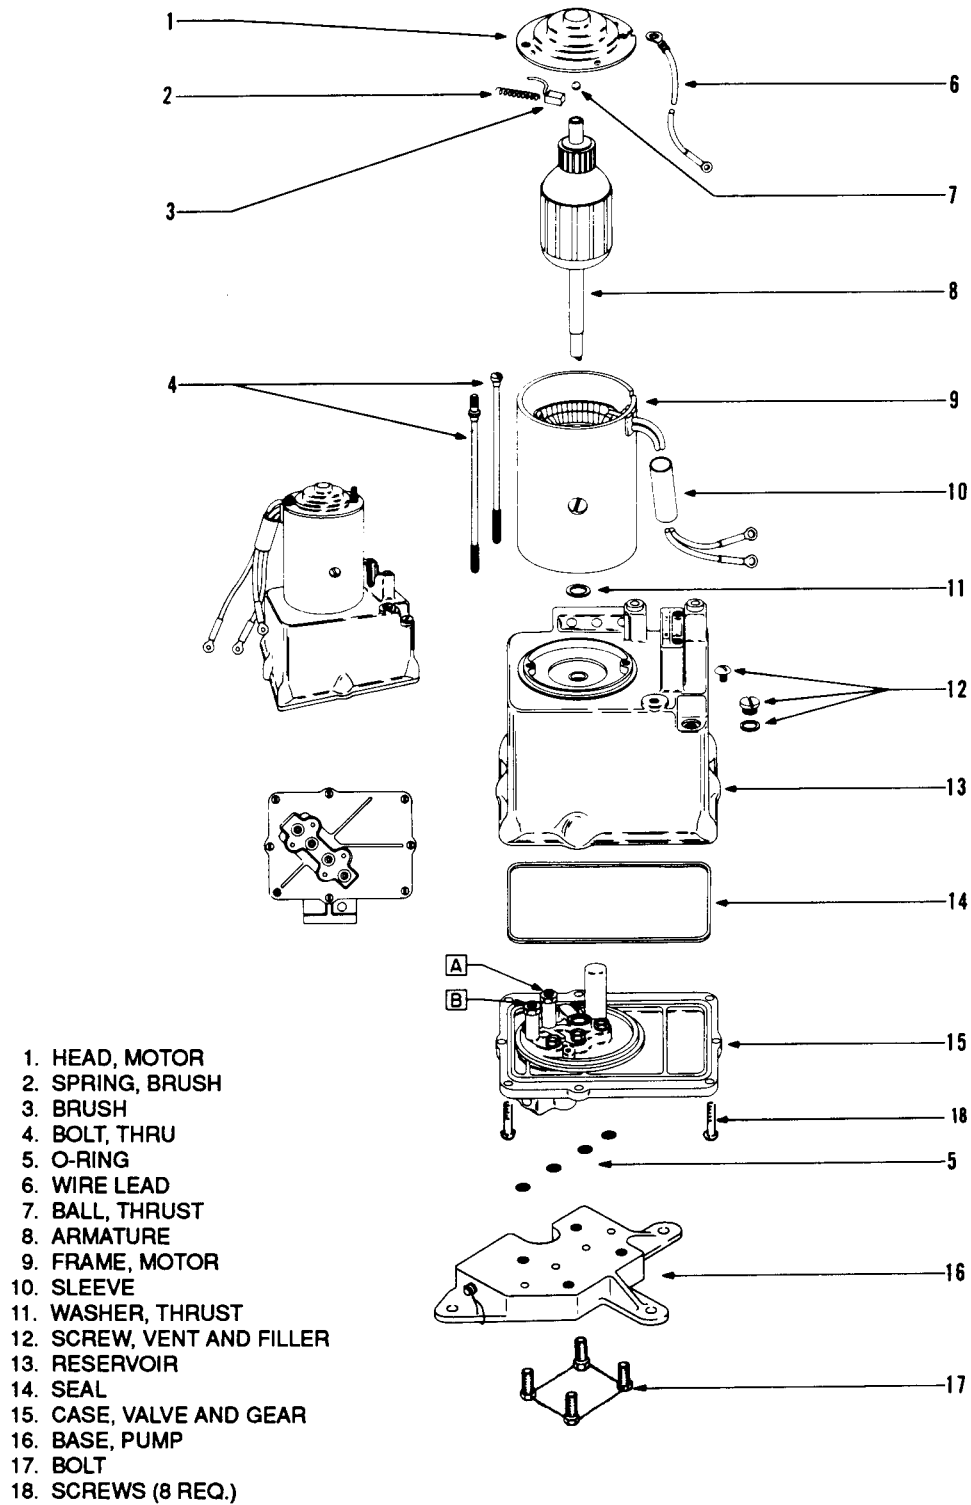

Figure 6-3. Hydraulic Pump/Reservoir, Exploded View (Prestolite)
6-6. DISASSEMBLY OF HYDRAULIC PUMP. (PRESTOLITE) (Refer to Figure 6-3.) After the hydraulic pump has been removed from the airplane, cap or plug all ports and clean the exterior of the pump with a dry type solvent to remove accumulated dust or dirt. To disassemble any one of the three main components of the pump, proceed as follows:
**6-8. ASSEMBLY OF HYDRAULIC PUMP. (PRESTOLITE) (Refer to Figure 6-3.)**
1. Position the motor frame (9) on the reservoir (13). Note the aligning marks on the frame and reservoir.
2. Place thrust washers (11), of the same amount removed, on the drive end of the armature (8).
5. Connect the blue lead to the positive terminal of the power supply. Pump should operate and the high pressure gauge should indicate 2250 +/-250 psi. (Should the pressure be incorrect, adjust valve "A", Figure 6-3, in pump reservoir.)
7. Connect the green lead to the positive terminal of the power supply. Pump should operate in reverse, dropping the high pressure gauge to zero and the low pressure gauge should indicate between 500 to 800 psi. When the green lead is disconnected, both pressure gauges should indicate zero psi. (Should the pressure of 500 to 800 psi be incorrect, adjust valve "B", Figure 6-3, in pump reservoir.)
- b. Position the pump on its mounting flange. Install mounting bolt with washer and tighten. (Refer to Figure 6-3.)